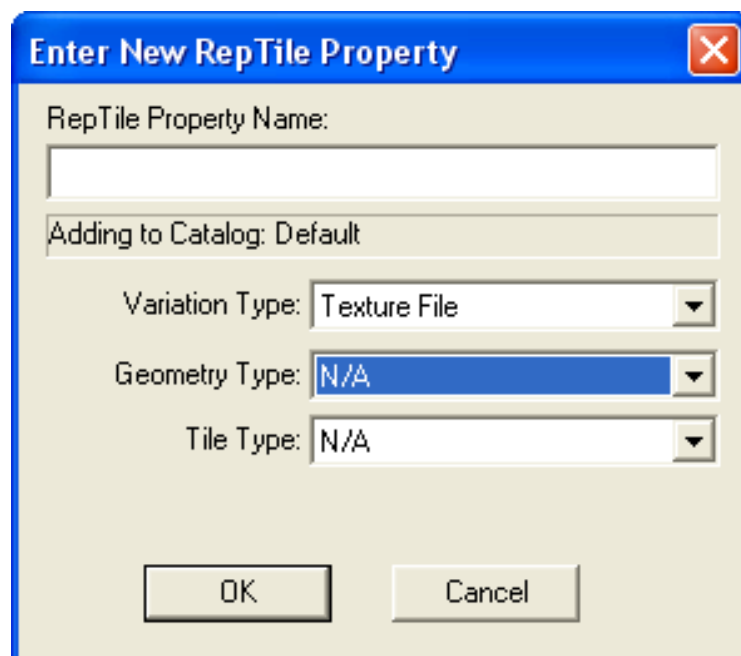

FIGURE 3.68 - Enter new RepTile property for a Variation Type of Texture File.
- While in the Catalog of interest, select **Add Property...**, which will display the Enter New RepTile Property dialog (see Figure 3.68).